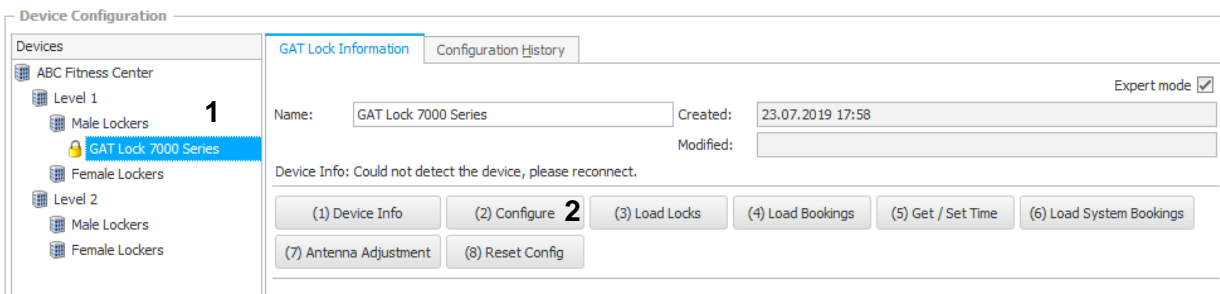

Figure 5.4 – GAT Config Manager - View configuration settings
- ▶ Select the GL7p from the “Devices” list (1 in Figure 5.4).
- ▶ Click on the “(2) Configure” button (2 in Figure 5.4).